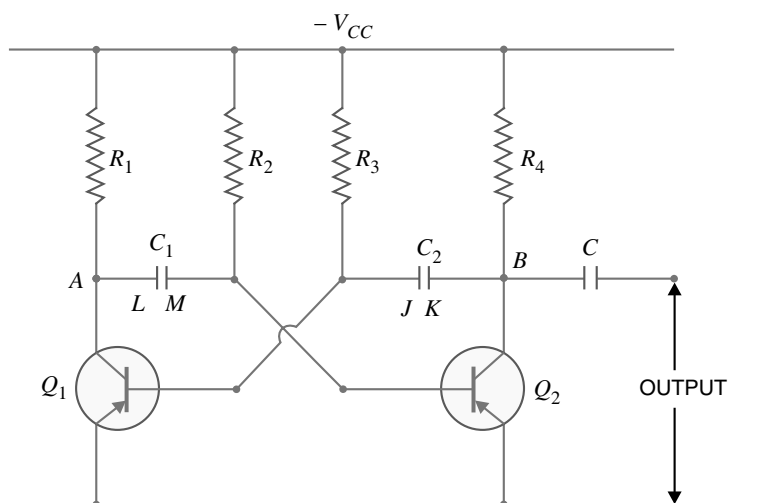

Fig. 16.18
**Circuit details.** Fig. 16.18 shows the circuit of a typical transistor astable multivibrator using two identical transistors  $Q_1$  and  $Q_2$ . The circuit essentially consists of two symmetrical CE amplifier stages, each providing a feedback to the other. Thus collector loads of the two stages are equal i.e.  $R_1 = R_4$  and the biasing resistors are also equal i.e.  $R_2 = R_3$ . The output of transistor  $Q_1$  is coupled to the input of  $Q_2$  through  $C_1$  while the output of  $Q_2$  is fed to the input of  $Q_1$  through  $C_2$ . The square wave output can be taken from  $Q_1$  or  $Q_2$ .
**Example 16.8.** In the astable multivibrator shown in Fig. 16.18,  $R_2 = R_3 = 10 \text{ k}\Omega$  and  $C_1 = C_2 = 0.01 \text{ }\mu\text{F}$ . Determine the time period and frequency of the square wave.